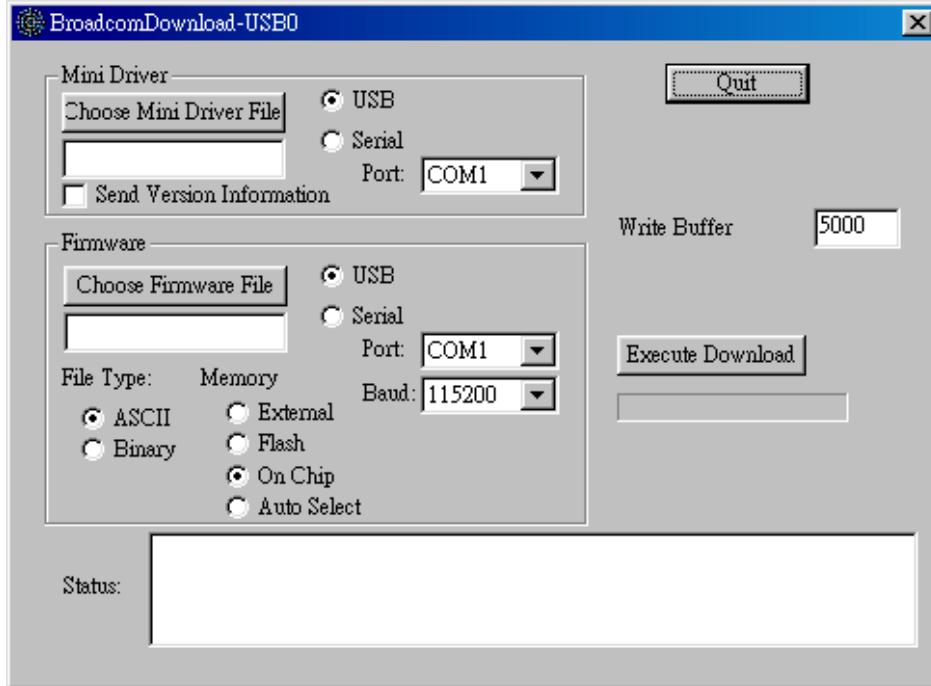

Figure 1: Downloader Configuration for USB Interface
3. Double click on **BroadcomDownload.exe** to start the program. In the "**Mini Driver**" box, select "**USB**" and deselect "**Send Version Information.**" (as Figure 1)